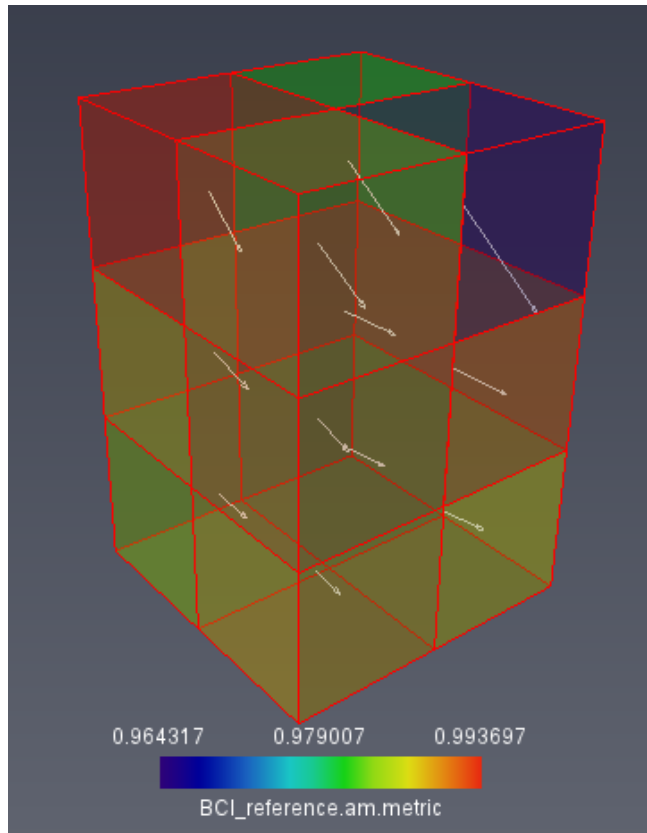

Figure 19.9: Metric Map and Displacement Vectors
- Visualize the displacement vectors by attaching a *Vector Field* module to *BCI_reference.disp*. Set the *Scale* port to 25 (open more options on *Scale* port line, and change *Max* value setting to 25) , *Coloring* port to *Uniform* and select the white color from the port *Uniform color* (see Figure 19.9).